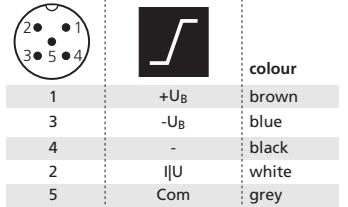

Fig. 1: Pin assignment with view onto sensor plug and colour coding of the microsonic connection cable
- Connect a connection cable to the M12 device plug, s. fig.1.